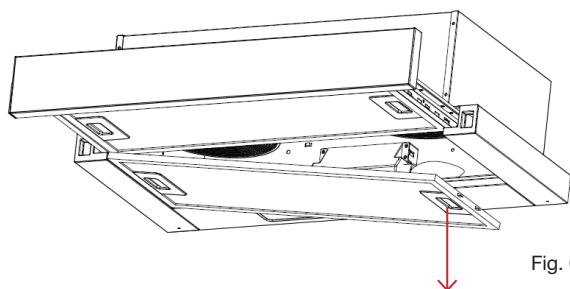
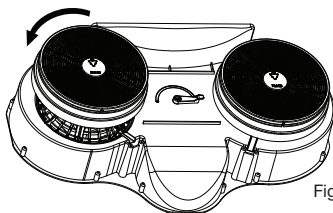

Fig. 6
Fig. 8
3. Remove the aluminium grease filters (Fig 6. on page 10) from the underside of the rangehood. Turn the switch in the centre of the motor housing to “External Outside Ducting” position (Fig. 1)
4. Remove the charcoal filters by twisting anti-clockwise (Fig. 8 on page 11). The charcoal filters are not required for “external outdoor ducting mode”
To ensure that the mode is correct, remove the grease filters (see Fig. 6) and check that the switch is in "Recirculation mode" position (Fig. 1).
To remove the charcoal filters you will first need to remove the grease filters (see Fig. 6), now twist anti-clockwise and pull down as shown in Fig. 8.